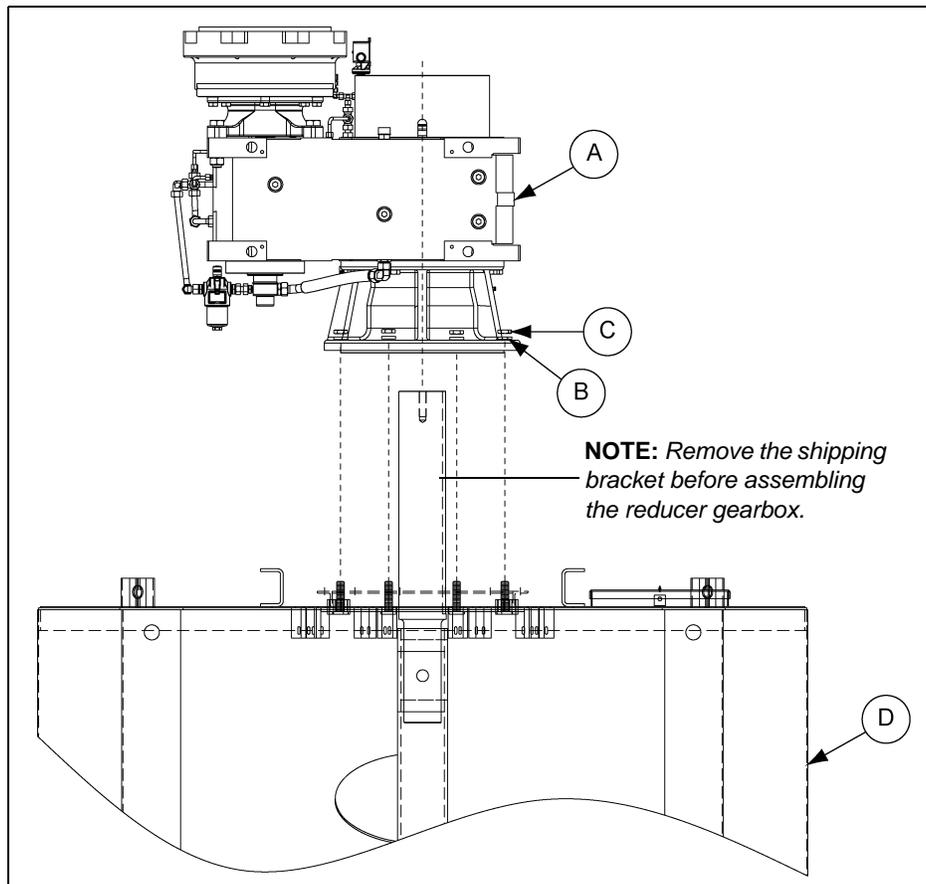

Figure 5A Reducer Assembly
1. Remove the shipping bracket which holds the blender shaft before installing the reducer gearbox (A) onto the shaft.
4. Once reducer gearbox is in place, fully tighten the fasteners (B and C). (*See Figure 5A.*)